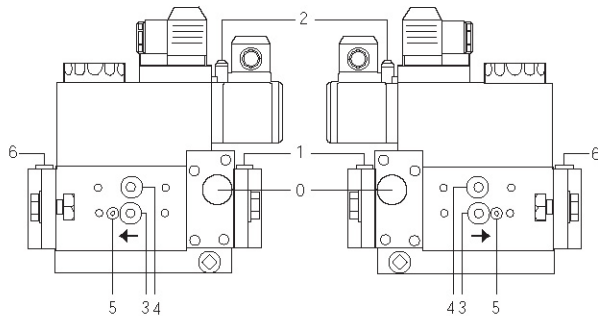
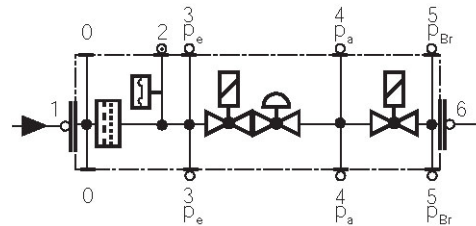

Fig. 21
Fig. 22
- Change the filter if the pressure difference between pressure connection 1 and 3 (Fig. 21-Fig. 22) is  $\Delta p > 10$  mbar.
- Change the filter if the pressure difference between pressure connection 1 and 3 (Fig. 21-Fig. 22) is twice as high compared to the last check.